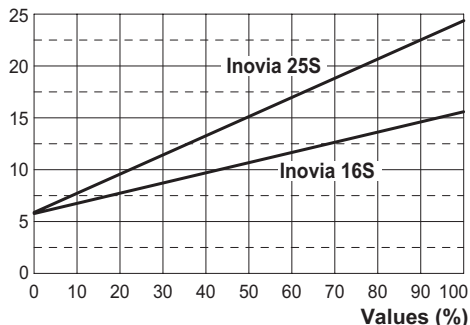
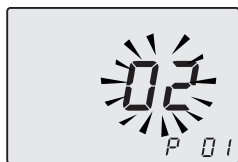
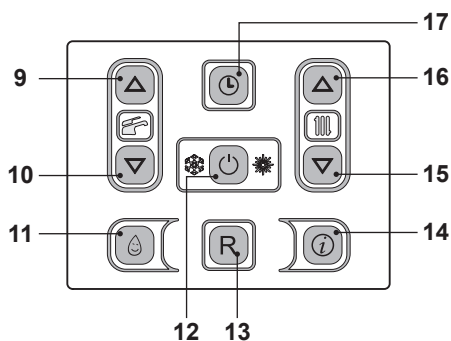

Fig. 7.41
Fig. 7.42
Fig. 7.43
Refer to Fig. 7.41 and determine the correct Value appertaining to the output required for the central heating requirement.
keys 12 - 15 - 16 (Fig. 7.43) for 10 seconds at the same time until the letters **P01** are displayed on the LCD display, indicating that "parameter 01" (Fig. 7.42) has been activated.
• It is possible to modify parameter using keys 9 or 10 (Fig. 7.43) (Refer to Fig. 7.41 and determine the correct Value appertaining to the output required for the central heating requirement.).
- By pressing key 12 (Fig. 7.43) confirmation of the inserted value is obtained.
- Press keys 15 or 16 (Fig. 7.43) to exit without changing the value.